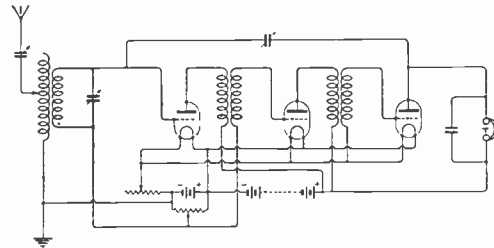

Fig. 3.
**ECKSLOOT (Nottingham)** asks (1) For a coupler for 180 to 200 metres. (2) For a diagram of a three-valve H.F. amplifier. (3) If No. 36 S.S.C. wire can be used for L.F. intervalve transformers.
(1) A.T.I. coil 2½ in. diameter wound with 6 in. of No. 22. Secondary, 2 in. diameter, wound with 5 in. of No. 22, with a 0.0002 microfarad condenser across it.
(2) Arrange the circuit as in Fig. 3.
(3) No. 36 will make rather bulky transformers. For an intervalve transformer, wind 10,000 turns